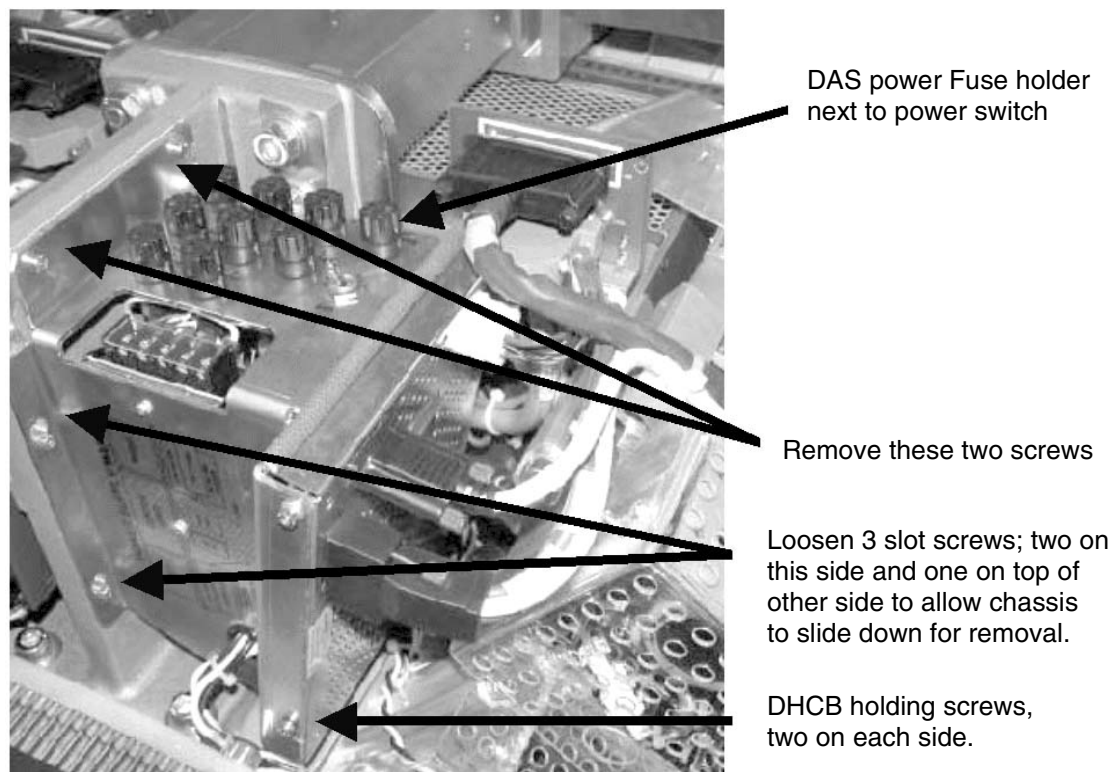

Figure 2 - Component Location Diagram
- 1.) Remove gantry right side cover, disable axial drive and rotate gantry by hand to see DAS fuse box. See Figure 2 to help identify DAS fuse box.
- 10.) Loosen 3 slot screws and remove two holding screws from fuse holder, which will slide down for removal. See Figure 2 below.